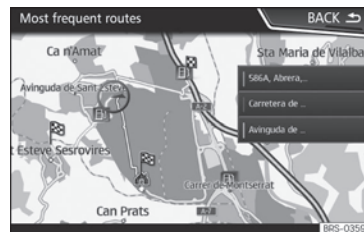

Fig. 229 Predictive navigation
- On the main screen of the Navigation menu, in the pop-up window, press the **Frequent routes** button. To display frequently followed routes press the **Show on map** button >>> Fig. 229.